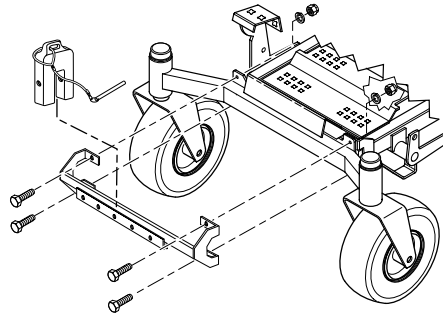

FIGURE 3-6
15. Using the weight support bar as a guide, identify the four corresponding mounting holes, and the existing hardware that will need to be removed in order to secure the weight support bar to the front of the machine as shown. See Figure 3-6.
16. Install one 7/16-14 x 1-3/4" hex head bolt into each of the four mounting holes in the weight support bar, and through the matching holes in the caster support weldment. Secure this assembly to the front of the machine using the 7/16- .5" x 1-1/4" x .083" flatwashers, and the 7/16-14 elastic stop nuts. Torque hardware to 59 ft. lbs. See Figure 3-6.